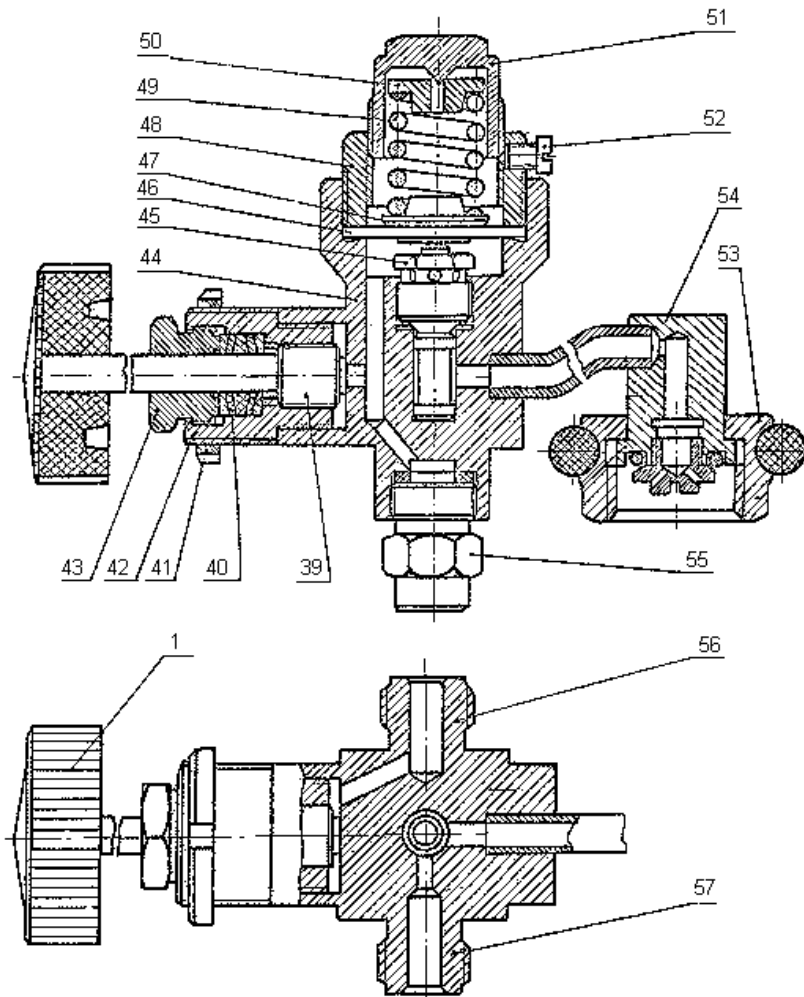

Fig. 7. Reducer assembly:
3.3.3 Reducer assembly (Fig. 7) is designed to reduce unsteady high pressure oxygen flow from cylinder to a steady oxygen flow 1.2 MPa in an ejector. The Instrument employs a diaphragm type reversible reducer (valve is pressed by oxygen flow).